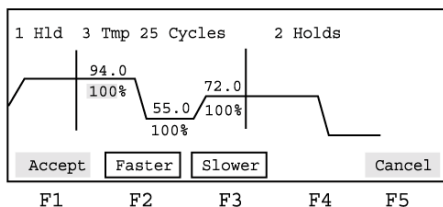

Figure 4-9. The Ramp Rate Modification screen
2. Press **F2_Ramp**. This displays the Ramp Rate Modification screen (Figure 4-9).
For the three temperature cycling method shown in Figure 4-9, you can modify the rate at which the instrument ramps up from 72.0°C to 94.0°C or from 55.0°C to 72.0°C.